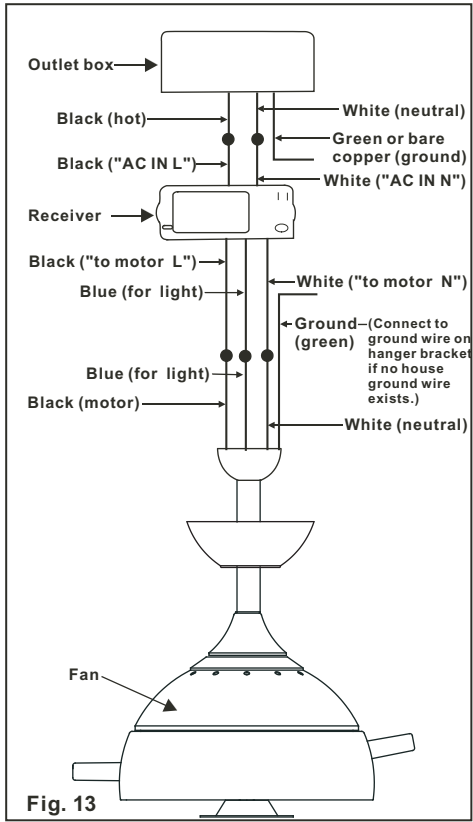

Fig. 13
**NOTE:** If your ceiling fan features an UP Light: Connect the ORANGE wire from the fan to the ORANGE wire marked "For Up Light" from the Receiver. Otherwise disregard this step and proceed to secure all wire connections with the plastic wire nuts provided. (Fig. 13 & 14)
**Step 3.** Receiver to House Supply Wires Electrical Connections: Connect the WHITE wire (Neutral) from the outlet box to the WHITE wire marked "AC in N" from the receiver. Connect the BLACK wire (Hot) from the outlet box to the BLACK wire marked "AC in L" from the receiver. Secure all wire connections with the plastic wire nuts provided. (Fig. 13 & 14)
**Step 4.** If your outlet box has a GROUND wire (Green or Bare Copper) connect this wire to the Hanger Ball and Hanger Bracket Ground wires. If your outlet box does not have a Ground Wire, then connect the Hanger Ball and Hanger Bracket Ground Wires together. Secure wire connection with the plastic wire nut provided. (Fig. 13 & 14)